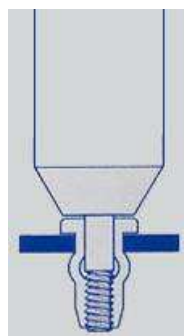

Fig. 3
7. Firmly screw in without exceeding the indicated torque in the table in section 6 (Fig. 3).